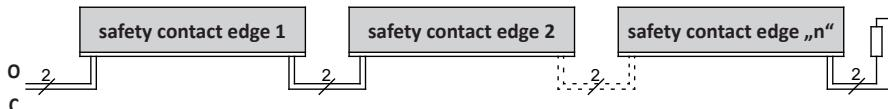

Figure 2: Wiring of multiple safety contact edges
6.7 Connecting multiple safety contact edges per sensor circuit (figure 2)
One or more safety contact edges can be connected to sensor input **O** or **C**. For this purpose, the individual safety contact edges are connected in series according to figure 2.